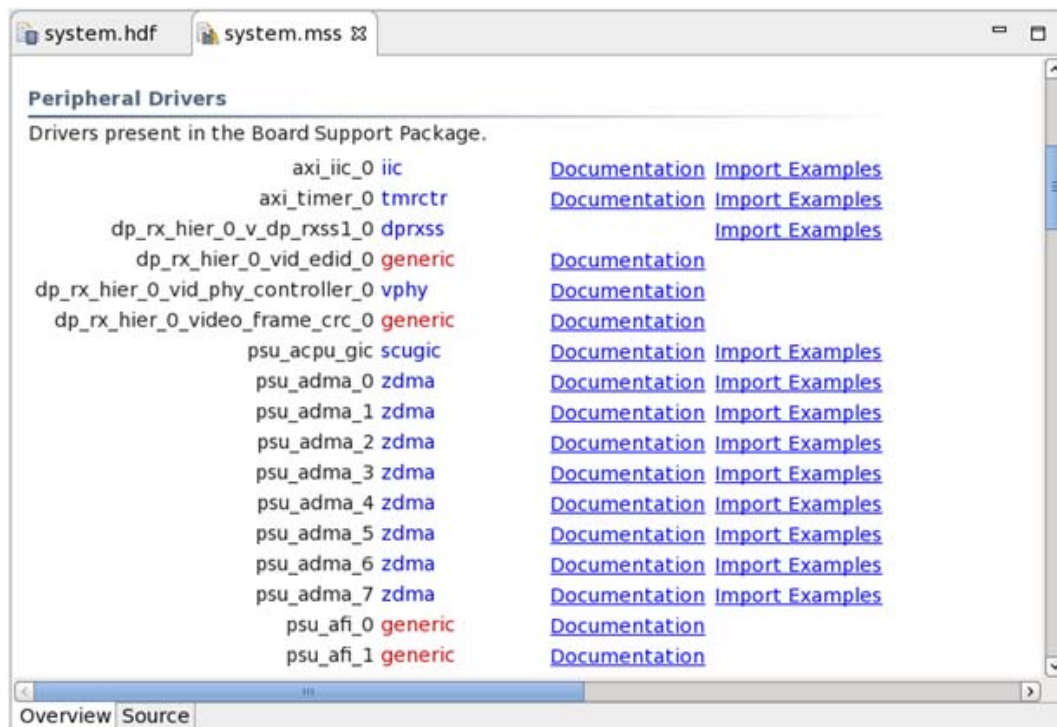
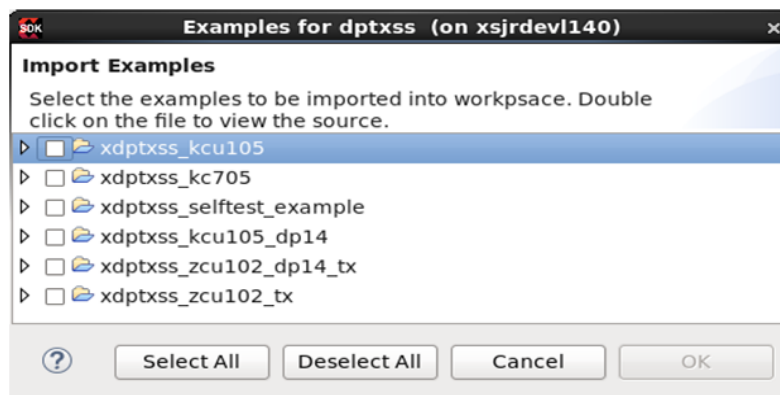

Figure 5-15: `system.mss`
Figure 5-16: Import Examples
16. Find DisplayPort RX/TX Subsystem Driver in the `system.mss` file (Figure 5-15). If it is not, open the file from the BSP in the **Project Explorer**. Click **Import Examples** (Figure 5-16).